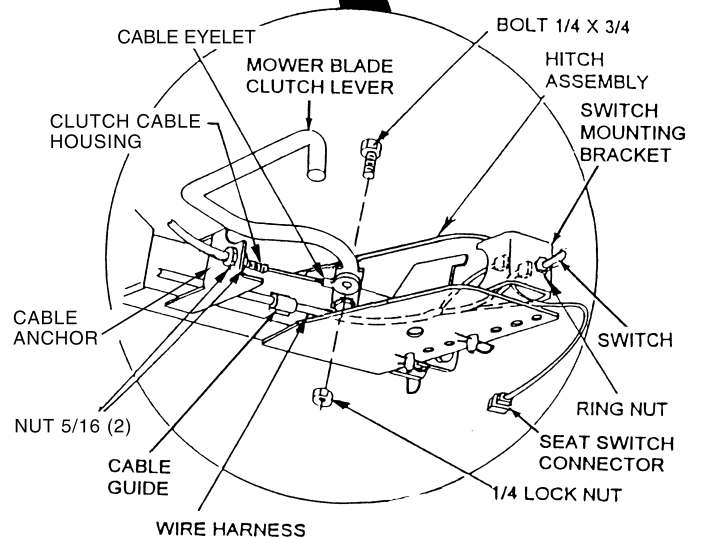

FIG. 1
- Cut and remove the Plastic Tie which holds the Wire Harness and the Clutch Cable to the Rear Quadrant. (See Fig. 1)